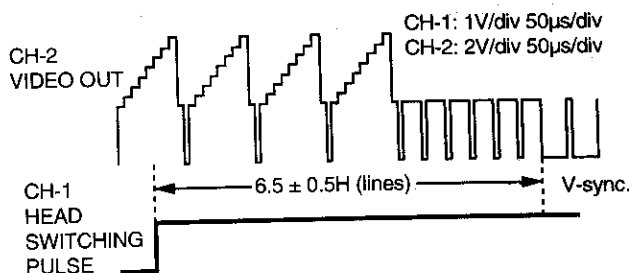

Figure 5-2.
- Make this checking of waveform on the oscilloscope screen be as shown in Figure 5-2. just after the head switching point have been adjusted.